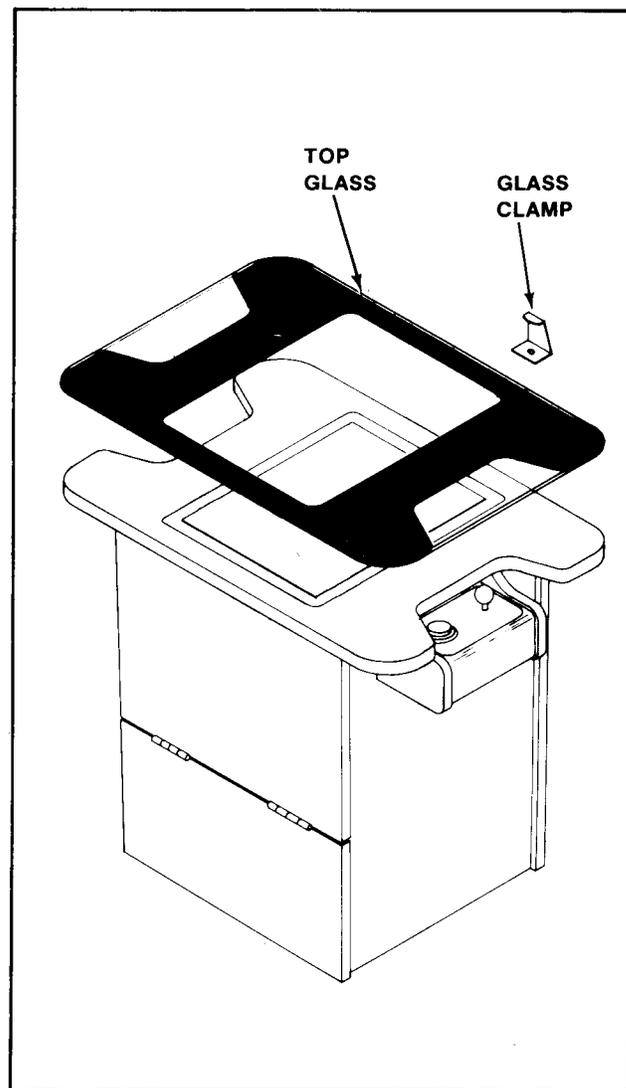

Figure 4-8 Removing Top Glass & T.V. Bezel — Cocktail
- Remove the screws which secure the table top glass clamps in place. See Figure 4-8.